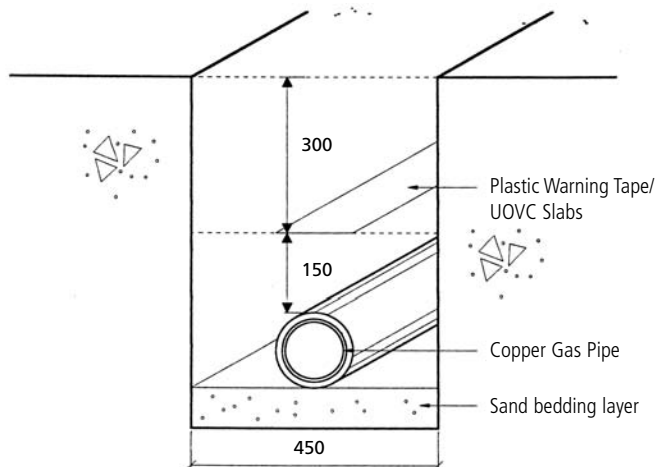

FIG. 8 PIPING BURIED IN GROUND OR UNDER CONCRETE EXTERNAL OF BUILDING IN NON-TRAFFIC AREA
- 4.6.2 Warning or marking tape shall be located 150 mm above the pipe. (Fig. 8).